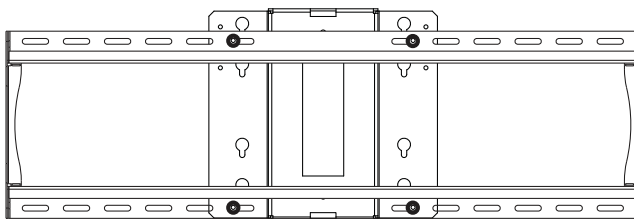

fig. 9.1
Secure universal screen bracket (W) to adapter box (G) using four M6 x 12 socket pin serrated washer head screws (J) through 1/4" x .062 flat washers (N) using mounting patterns shown in fig. 9.1.